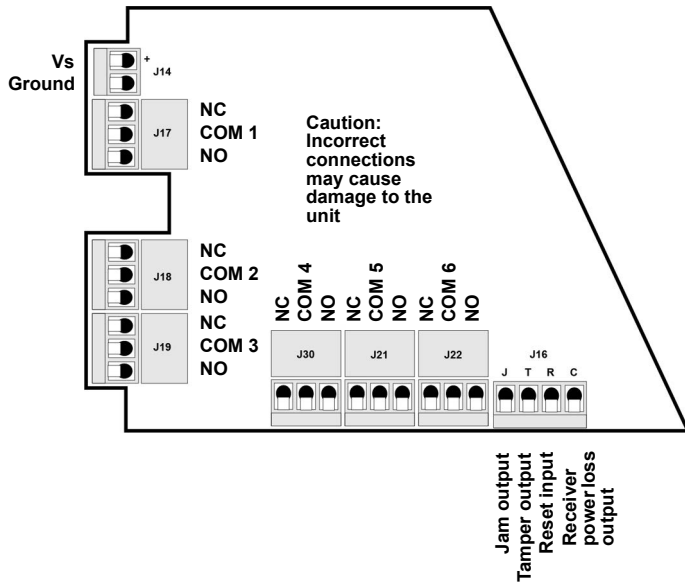

Figure 4 EN4216MR terminals
4. Connect a momentary switch to the reset input and ground (Figure 4, "EN4216MR terminals"). Must be configured for UL installations.
See Figure 4, "EN4216MR terminals" on page 3.	Line Power Loss